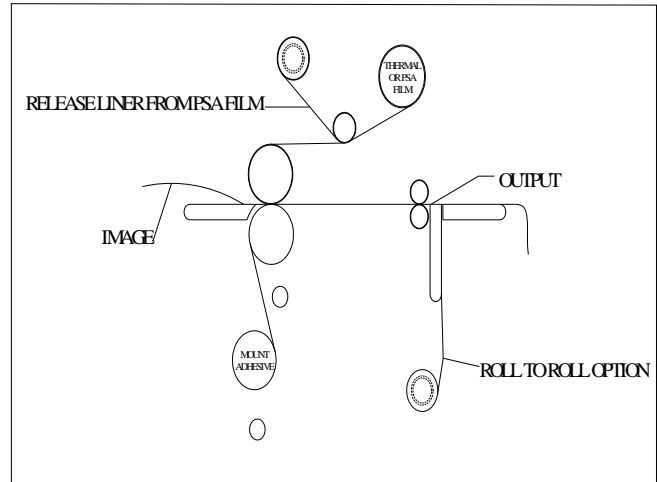

FIGURE 35
1. Load the laminator as illustrated in Fig. 35.
1. Load the laminator as illustrated in Fig. 35 Poly-in film is used for illustration purpose.